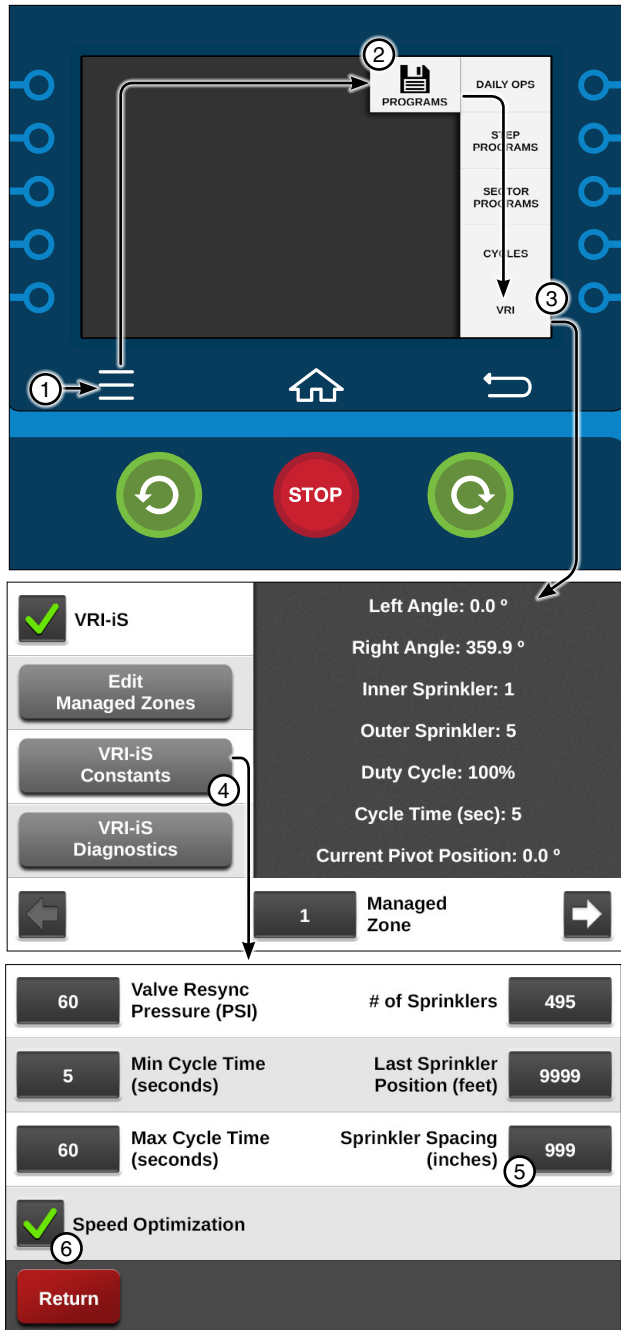

Figure 178-1 1. Menu 2. Programs 3. VRI 4. VRI-iS Constants 5. Sprinkler Spacing 6. Speed Optimization Checkbox
1. Push **Menu, Programs, VRI** and **VRI-iS Constants** to display the VRI-iS Constants screen. Refer to Figure 178-1.